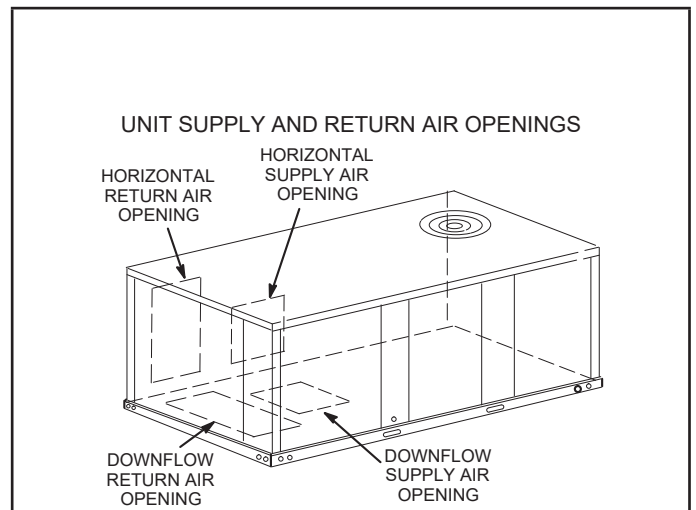

FIGURE 5
- 1 - Remove the horizontal covers from the rear of the unit. Refer to FIGURE 5.